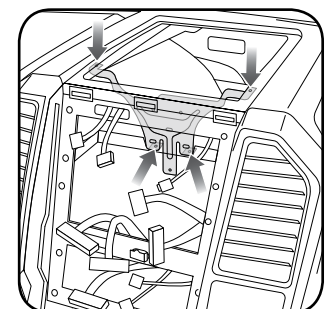

Fig. 6.1
Looking down, from the top of the dash, locate the (2) 8mm bolts securing the camera module's bracket and remove them. Remove the (2) 7mm bolts under the plastic of the top of the dash (bolts aren't visible). Work the metal bracket free from the sub-dash and remove it. (Fig. 6.1)